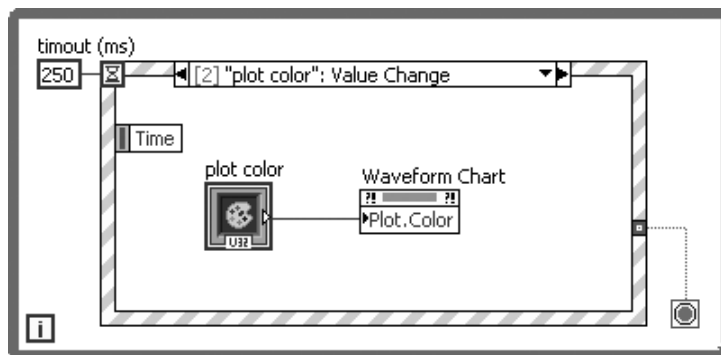

Figure 13.58
- Finally, add a third event that detects if the color box "plot color" changes value. Make it change the plot's color on the waveform chart to match. Try to do this by yourself without peeking at Figure 13.58 (hint: you'll need to use a property node for the chart).